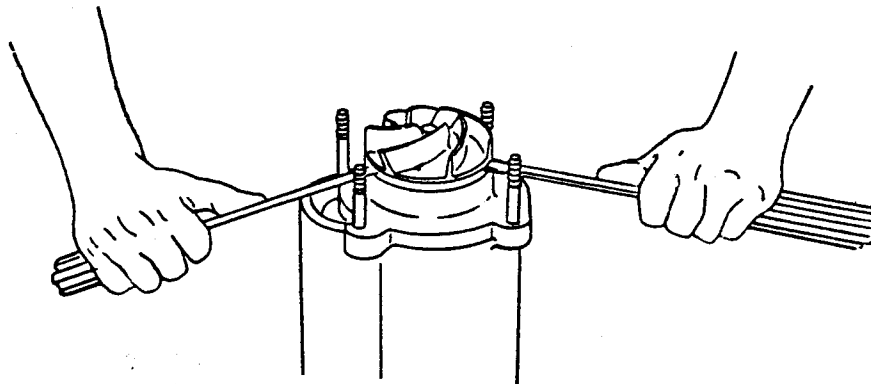

Figure 2. Removing Pump Impeller
Remove the wood and pry the impeller off using two flat-bladed screwdrivers as shown in Figure 2. Retain the impeller key (35). Use caution when removing the impeller from the shaft; tension on the seal spring will be released, and the seal plate (43) will become a free part.